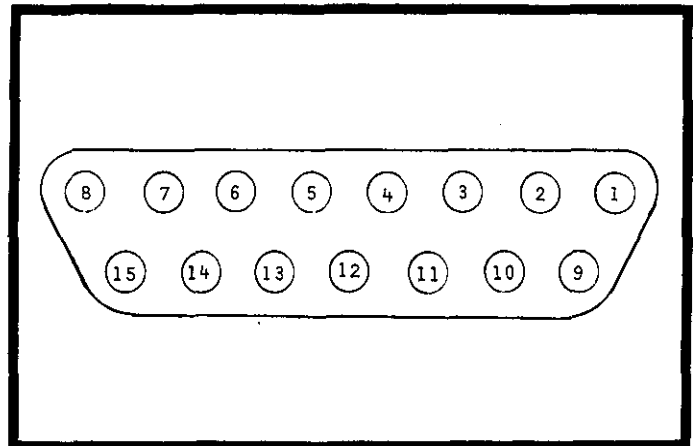

FIGURE 21. Rear Panel Remote Programming Connector.
a. How to Make Connections. When the Model 2271 is installed, a 15-pin connector is furnished on the rear panel as shown in Figure 21. A summary of pin locations is given in Table 3-6.